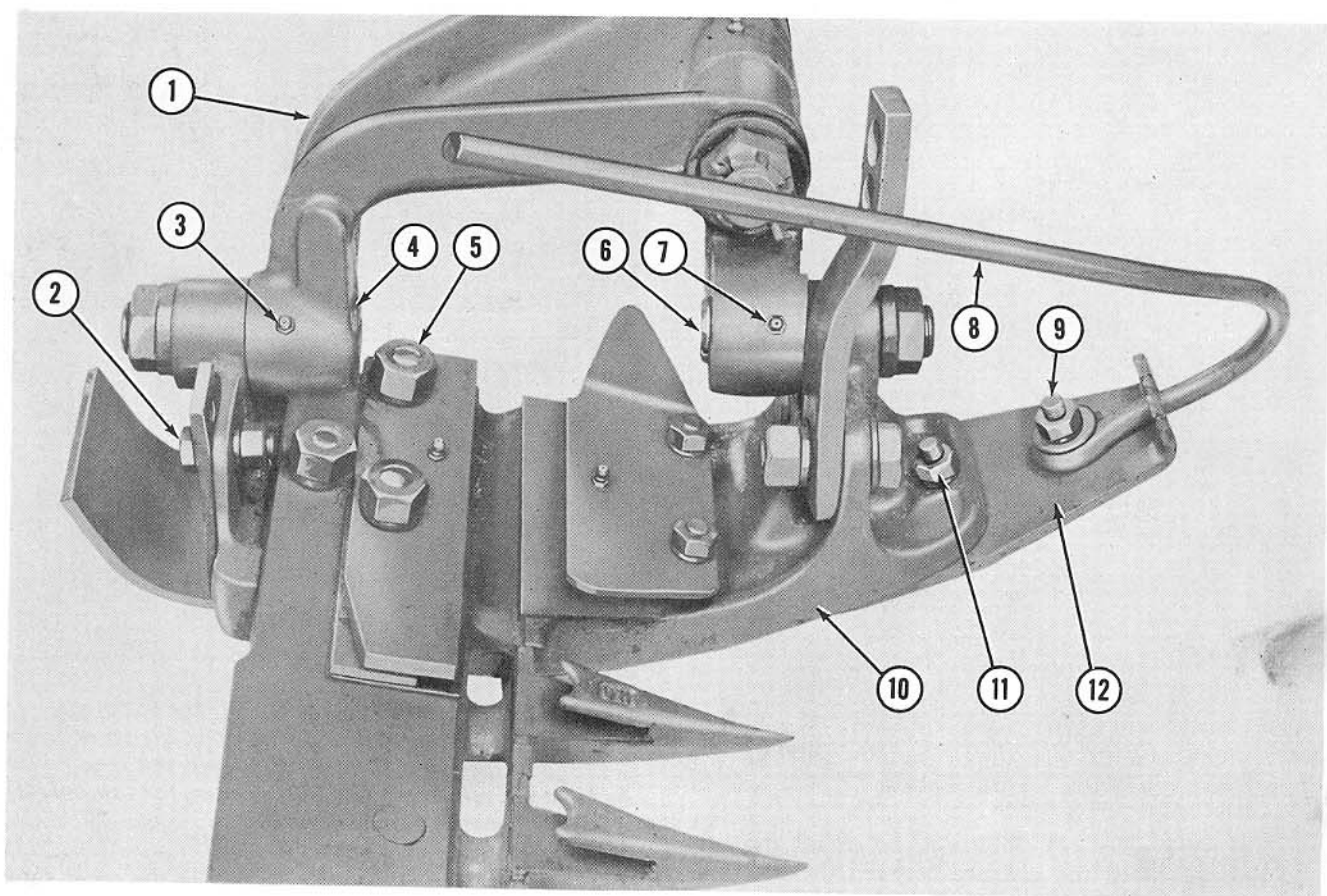

Figure 6
8. Attach the cutter bar inner shoe (10), Figure 6, to the drag bar hinge (1) as follows:
- a. Remove the nut (5) from the knife guide plate bolt and position the hinge between the holes on the inner shoe as shown.
- b. Coat the hinge pins with grease, align the holes and insert the hinge pins (4) and (6), Figure 6, from the inside out.
- c. Replace and tighten the nut (5), Figure 6 and secure the hinge pins with lockwashers and nuts provided in the bag of parts.
- d. Insert the fittings (3) and (7), Figure 6, provided in the bag of parts and lubricate the fittings thoroughly.
9. Attach the inner shoe sole (12), Figure 6, to the inner shoe (10) with a $\frac{7}{16}$ " x $1\frac{1}{2}$ " carriage bolt (11), lockwasher and nut. Attach the rear of the sole in the desired hole of the shoe with a $\frac{1}{2}$ " x $1\frac{1}{4}$ " bolt (2), lockwasher and nut.
10. Attach the grass rod (8), Figure 6, to the forward end of the sole (12) with a $\frac{7}{16}$ " x $1\frac{1}{2}$ " carriage bolt (9), flatwasher, lockwasher and nut as shown.